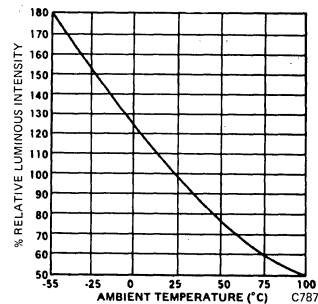

Figure 2 Luminous Intensity vs. Temperature
- The curve in Figure 2 is normalized to the brightness at 25 $^{\circ}$ C to indicate the relative efficiency over the operating temperature range.